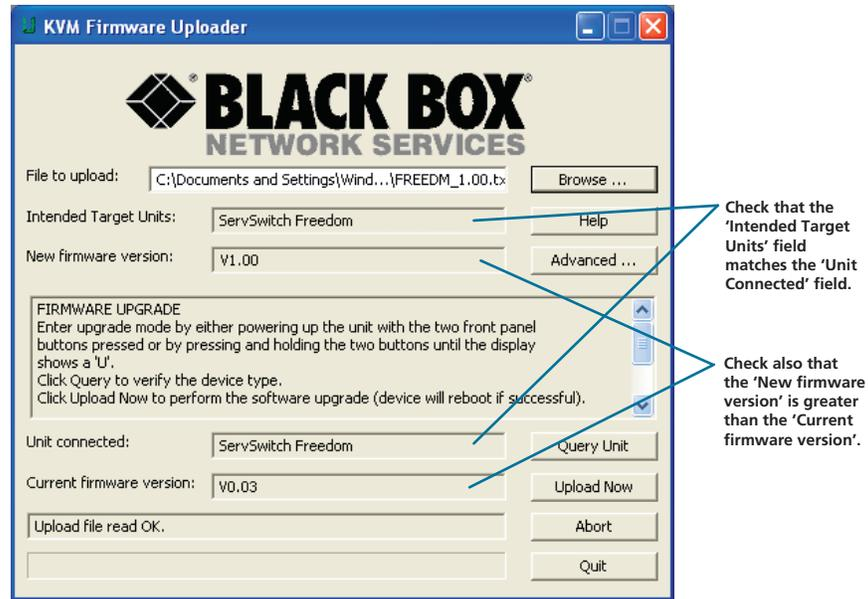

Figure 4-10. KVM Firmware Uploader utility screen with upgrade file selected.
**IMPORTANT:** Check that the 'Intended Target Units' field matches the 'Unit Connected' field. If these fields do not match then you may have an incorrect upgrade file; check with Black Box Technical Support before proceeding. Check also that the 'New firmware version' is greater than the 'Current firmware version'. See Figure 4-10.